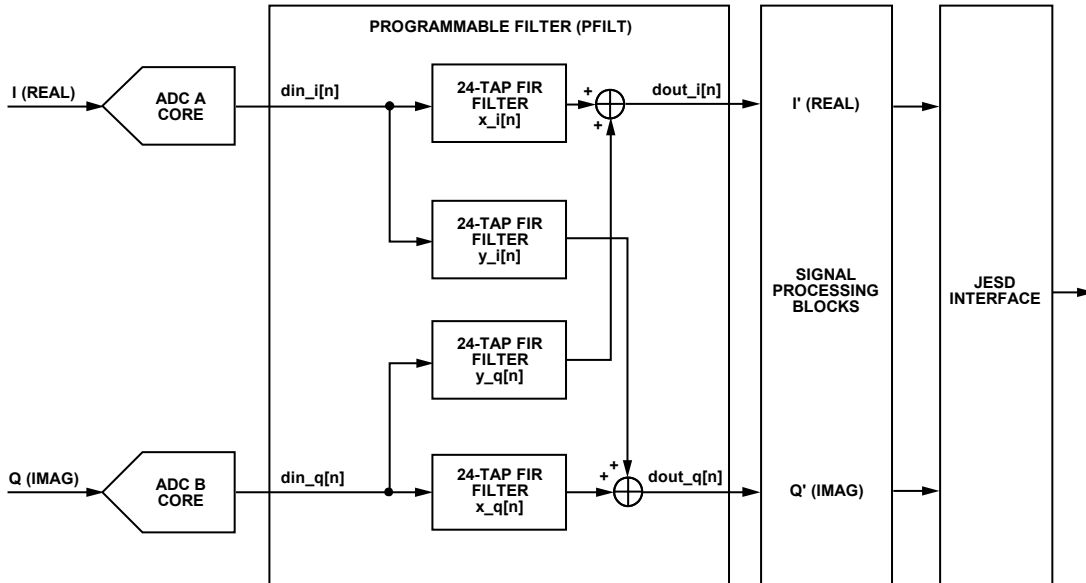

Figure 70. 24-Tap Full Complex Filter Configuration
- Full complex filter using four real 24-tap filters for the I/Q channels (see Figure 70)